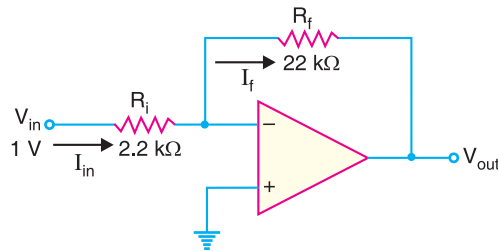

Fig. 25.105
12. Determine the approximate values of (i) I_{in} (ii) I_f (iii) V_{out} (iv) closed-loop voltage gain for the circuit in Fig. 25.105. [(i) 455 μ A (ii) 455 μ A (iii) -10V (iv) -10]